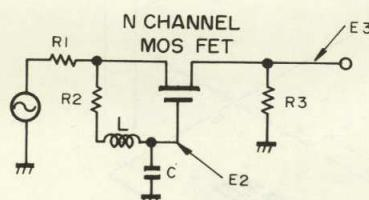
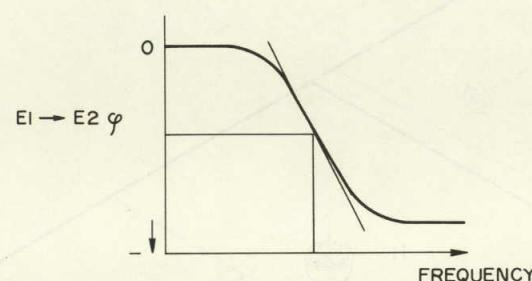
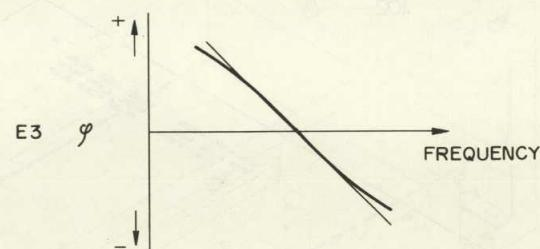
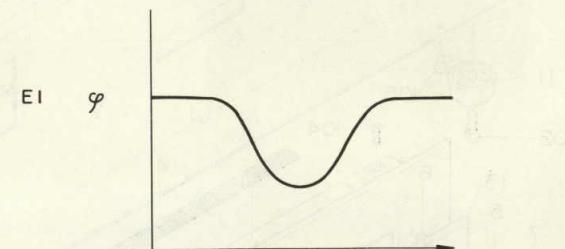

Fig. 8
Fig. 12
Fig. 13
Fig. 14
Fig. 8 shows the basic circuit of the demodulator. The values of the coil and capacitor are such that the resonance point is set to the intermediate frequency. Therefore, the phase of E2 is delayed 90° at the intermediate frequency (10.7 MHz) with respect to E1. Fig. 12 shows the phase of E2 with respect to E1. In the vicinity of this 10.7 MHz frequency, the phase of E2 is delayed in proportion to the frequency.
Fig. 13 shows a detail of Fig. 12. It indicates that the phase variation based on the coil and capacitor (LC) is not strictly linear, that the variation in the phase per unit frequency is highest at the resonance point (10.7 MHz) and that the further it is removed from this resonance point on either side, the smaller it becomes. For this reason, the frequency versus E3 DC potential is as shown in Fig. 13.
E1 is divided by the R1 and R2 LC series resonance circuit and obtained. This means that, as shown in Fig. 14, it is at its minimum at the LC resonance point. Therefore, if the E2 phase lag is linear with respect to the frequency, the E3 DC potential will be as shown in Fig. 15, the non-linearity of the phase lag in Fig. 13 is compensated for, and overall linearity is produced.